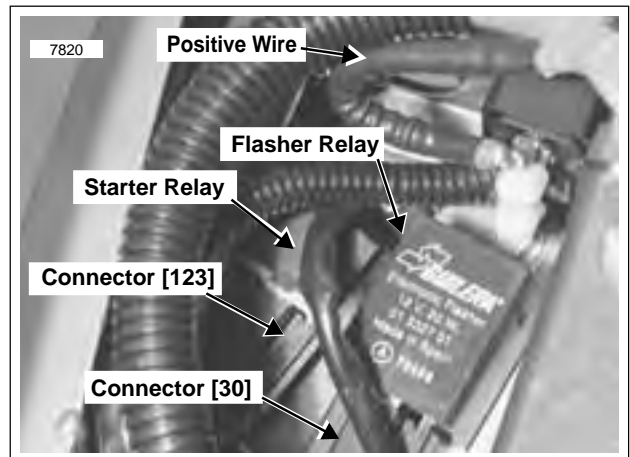

Figure 7-99. Flasher Relay Connector [30]
26. See Figure 7-99. Unplug flasher relay connector [30] and starter relay connector [123] located in frame tray on right hand side.
28. See Figure 7-99. Disconnect positive (+) wire from battery on circuit breaker (upper stud).
2. See Figure 7-99. Connect flasher relay connector [30] to flasher relay and starter relay connector [123] to starter relay.